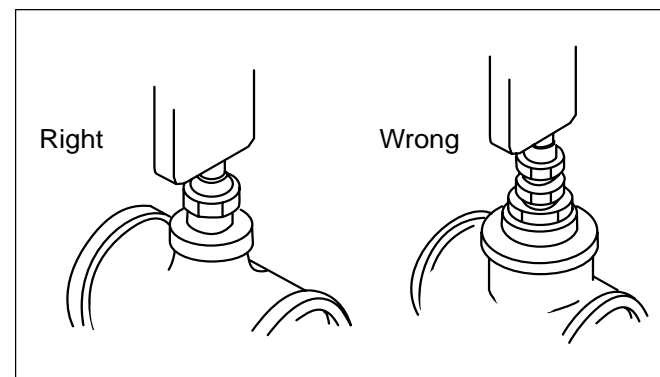

Figure 8. Thermometer Bulb.
8. Keep thermometer bulbs in moving water. Use of a bushing will cause temperature readings to be off 10° or more (see Figure 8).